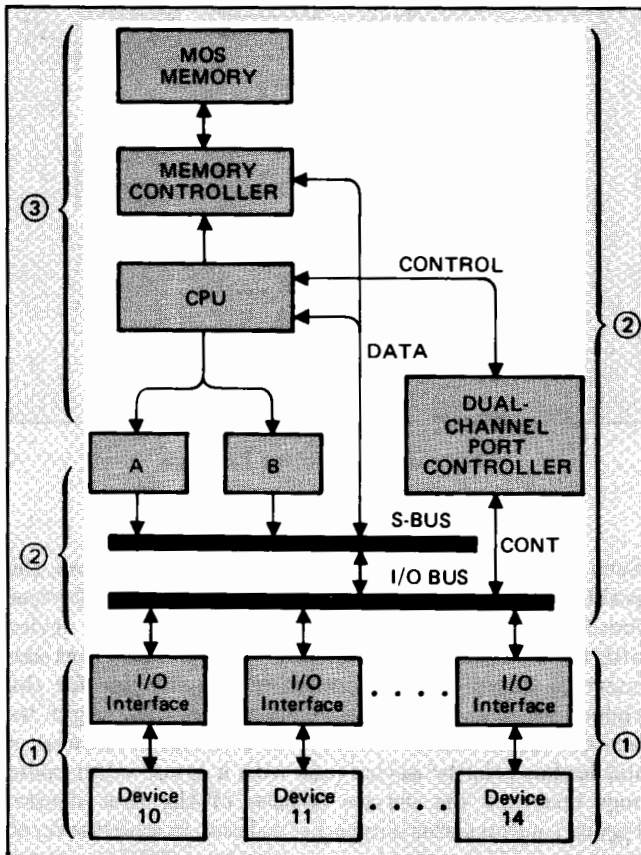

Figure 7-1. Input/Output System
The purpose of the input/output system is to transfer data between the computer and external devices. As shown in figure 7-1, data is normally transferred through the A- or B-register. An input transfer of this type occurs in three distinct steps: (1) between the external device and its interface PCA in the computer, (2) between the interface PCA and the A- or B-register via the I/O bus and CPU, and (3) between the A- or B-register and memory via the S-bus and memory controller. This three-step process also applies to an output transfer except in reverse order. This type of transfer, which is executed under program control, allows the computer logic to manipulate the data during the transfer process.
Also shown in figure 7-1, data may be transferred automatically under control of the Dual-Channel Port Controller (DCPC) option. Once the DCPC has been initialized, no programming is involved and the transfer is reduced to a two-step process: (1) between the external device and its interface PCA in the computer and (2) between the interface PCA and memory via the I/O bus, S-bus, and memory controller. The two DCPC channels are assignable to operate with any two device interface PCA's.